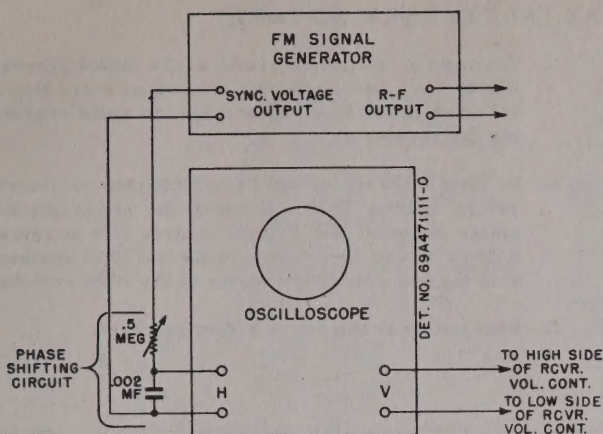

FIGURE 5.
3. Connect the FM signal generator sync voltage output terminals, through a phase shifting network, to the horizontal input terminals of the scope, as in Figure 5. (Other values of resistance and capacitance may be required, depending upon the scope). The phasing control should be adjusted to give only one trace on the scope. NOTE: If the FM generator has a built-in phase control, the phase shifting network is not necessary.